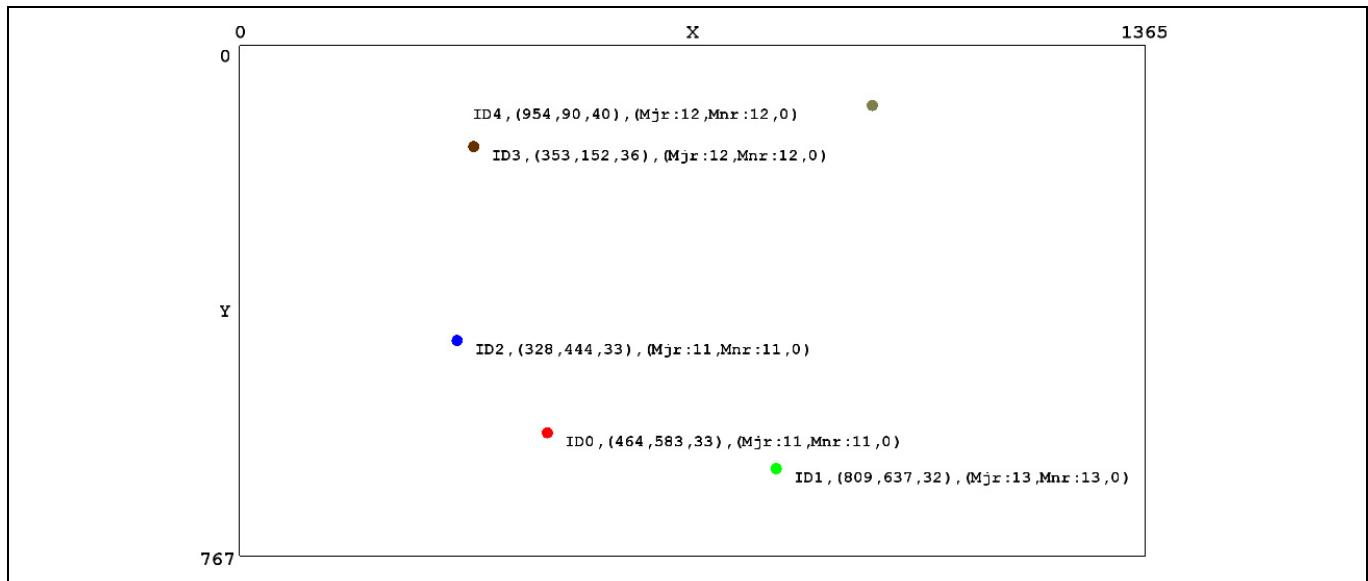

Figure 13 TTHe showing fingers placed on panel
- The steps to set up the TTHe to communicate with the CYAT8168X EVK are now complete. Place a finger on the panel and see it move on the screen, as shown in **Figure 13**. Note that there are five fingers placed on the panel. It reports up to ten fingers.
13. CYAT8168X includes support for finger touch with and without gloves. This is handled by the signal threshold tuning parameters, which are configurable in TTHe. TTHe will report touches as shown in Figure 13 for fingers (filled circle), whereas gloves are represented by a hatch-filled circle. Each finger placed on the panel is represented with a different color on the TTHe. Next to each finger, the finger ID, X-coordinate, Y-coordinate, the Z value (pressure of the touch reported), and Finger Orientation (Major, Minor, and Angle) are displayed in TTHe.